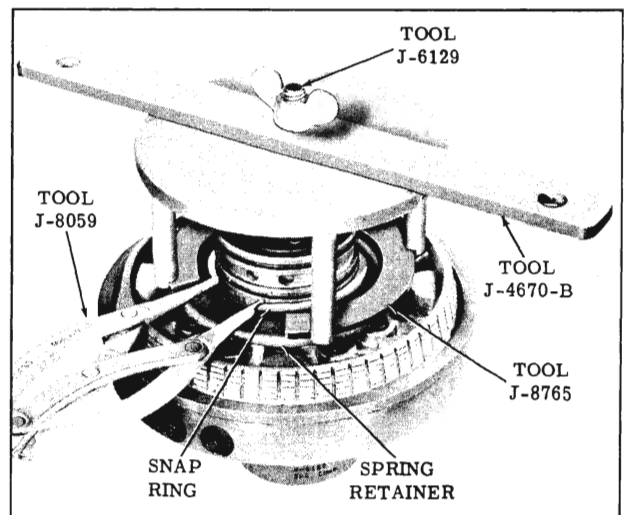

Fig. 3-255 Removing Case Support Snap Rings
- 2. Remove snap ring as shown. (Fig. 3-255)
6. Place snap ring on case support and attach all spring compressing tools. (Refer to Fig. 3-255)